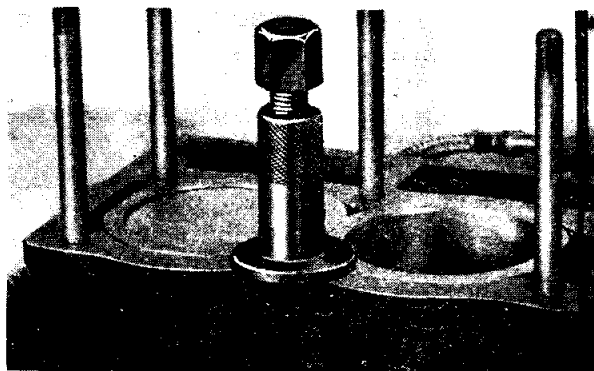

Fig. 22 Showing one of the two Cylinder Sleeve Retainers required to prevent movement.
sleeve retainers (Churchill Tool No. S.138) should be applied as shown in Fig. 22.
- (i) Immediately the combustion head has been removed, place cylinder liner retainers in position (Fig. 22) and check the projection of the cylinder sleeves above the face of the cylinder block (Fig. 5). The flange of the cylinder sleeves should stand proud by .003" minimum to .0055" maximum. If the cylinder sleeves have sunk below .003" new figure of eight joints will need to be fitted. (See page 19.) Inspect also for cylinder sleeve movement and if any is suspected the cylinder sleeves and pistons will have to be removed and new figure of eight joints fitted.